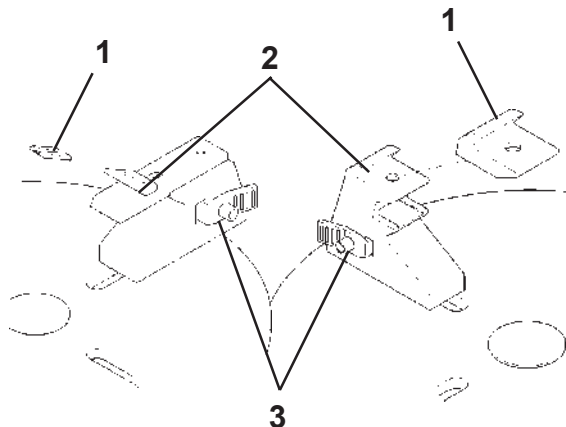

Fig. 28
C. Weekly clean the teeth of the jaws (1 Fig. 28) with a wire brush, check the nylon clamping jaw insert (2) and replace if worn.